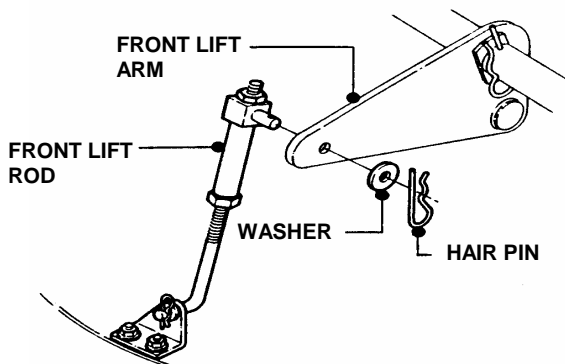

FIGURE 4.23
4. Disconnect the deck lift rod from the front lift arm. See Figure 4.23.